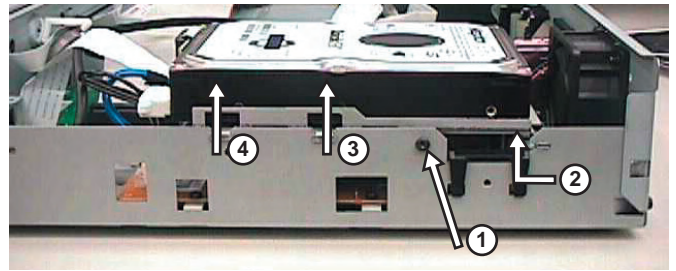

Figure 4-8
- 1) Unscrew screw labelled 1 in figure 4-8.
- 2) Lift up the harddisk in the arrow labeled 3 and 4 in figure 4-8.
- 3) Slide out in the direction of the arrow labeled 2 in figure 4-8.